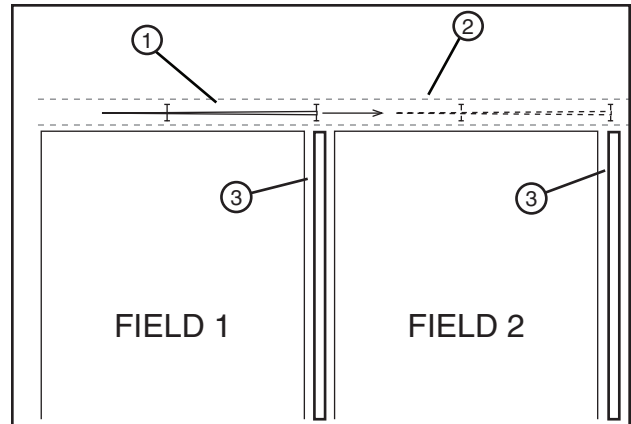

Figure 85-1 1. Machine 2. Tow Lane 3. Ditch
1. Position the machine in the tow lane. See figure 85-1.